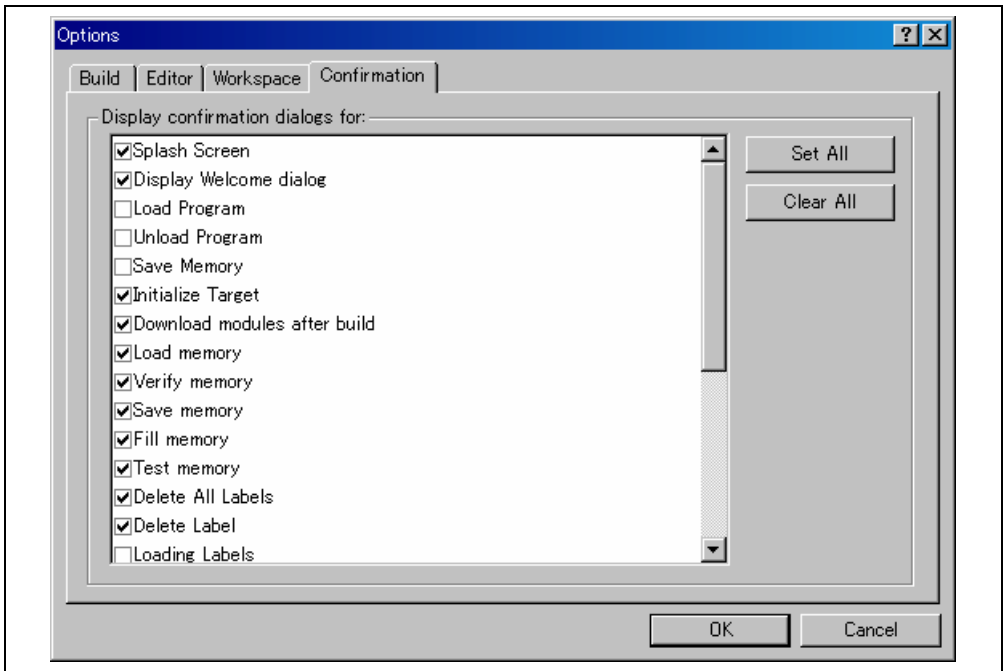

Figure 6.16: Confirmation Page for Optional Dialog Boxes
1. Select [**T**ools->**O**ptions...]. Then select the “Confirmation” tab (figure 6.16).